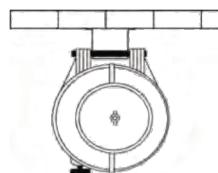

fig. 2 - overhead
- For ceiling mounting (Fig. 2), the hose reel must not be able to swivel. Use the fixation provided for this purpose.